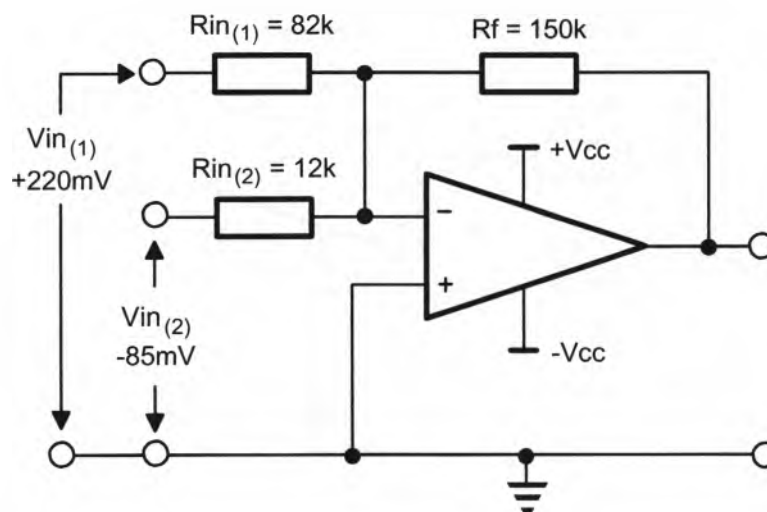

Figure 6
1. What is the output voltage of the summing amplifier in Figure 6?